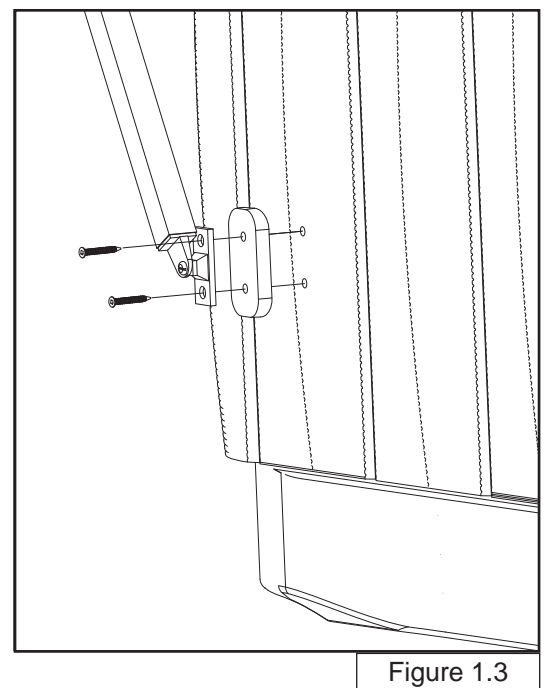

Figure 1.3
Making sure to align the holes on theSide Hinge to the holes on the spacers, secure the Side Hinge and spacer to the spa cabinet using (2) of the Flat Head Screws (Figure 1.3). Bag # 2 (#10 2" Flat Head screws).